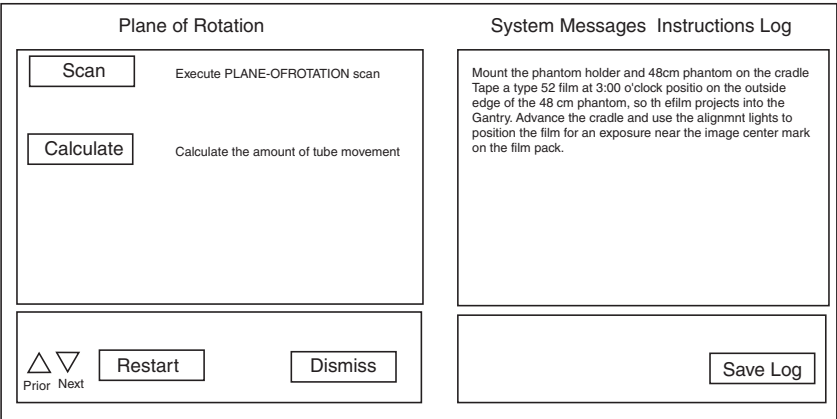

Figure 11-5 Plane Of Rotation Alignment Screen
- 9.) Click on the CALCULATE button (see Figure 11-5). Enter the values for X_F and X_R obtained in the steps above. The software does the distance calculation.